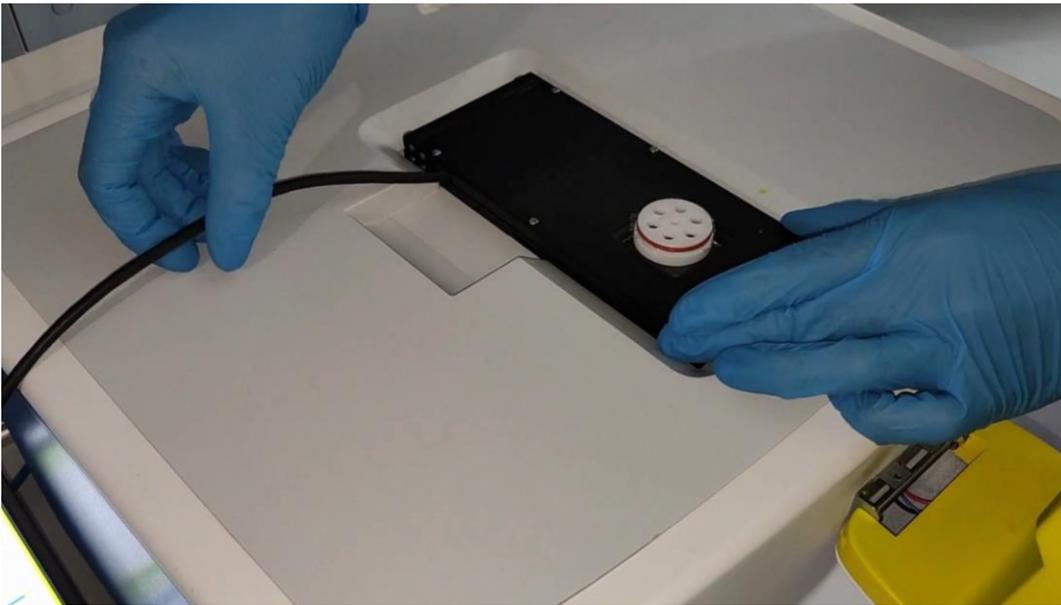

Figure 4: The operator completes the configuration of the combined systems: IntraCell plus the MCS MEA headstage.
6. Move the MEA headstage from cell hood and place it on top of IntraCell, as shown in Figure 4. Open the lid of IntraCell and place the MEA headstage in the dedicated socket.